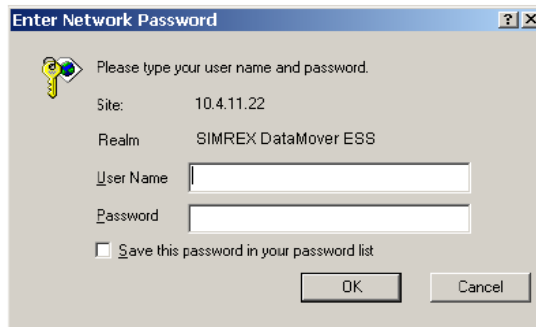

Figure 3-6. Log-in Screen when using a Web Browser
4. A log-in screen is displayed (**Figure 3-6**) where you enter a user name and password to access the unit's menu system. Note that the default entries are made in *lower case*. (Default User Name: **DataM-over**; Default Password: **admin**)